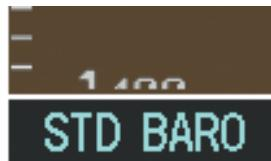

Figure 2-9 Standard Barometric Altimeter Setting
- 2) Press the **STD BARO** Softkey; STD BARO is displayed in barometric setting box (Figure 2-9).